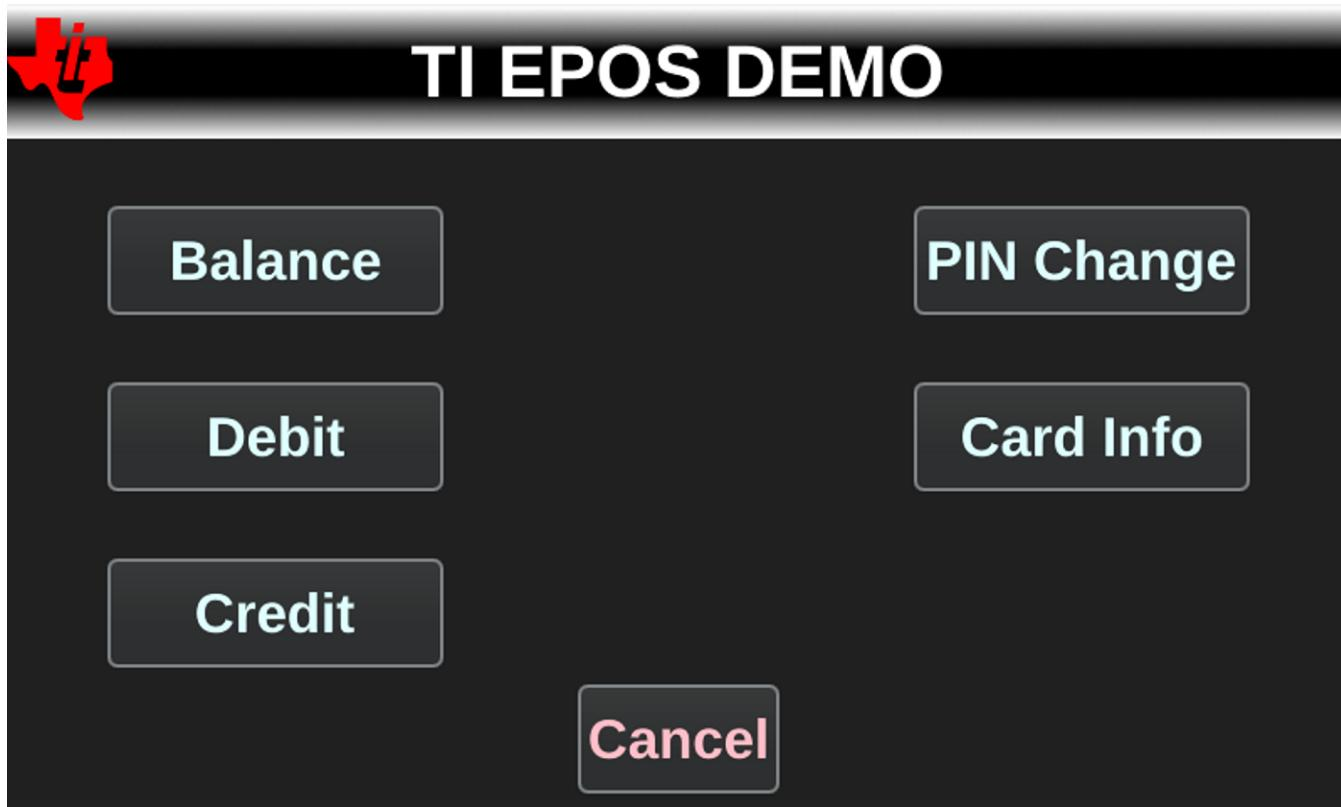

图 15. PIN Authentication Successful
3. Result: On successful PIN authentication, the TI EPOS Demo menu screen opens (see 图 15).